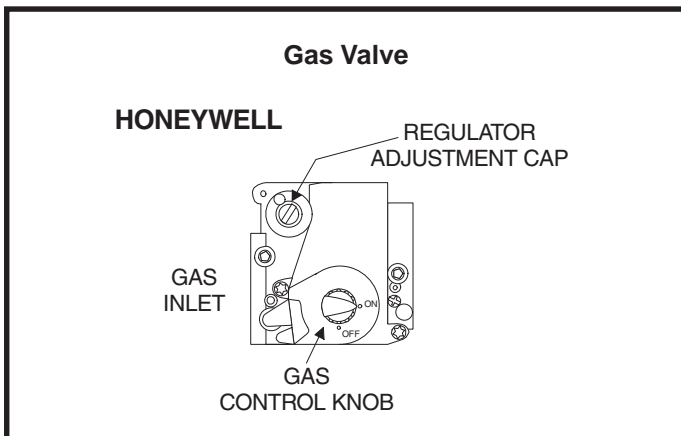

Figure 9
2. Depress and turn the gas valve knob to the “OFF” position (see Figure 9).
3. Turn the gas valve knob to the “ON” position (see Figure 9).